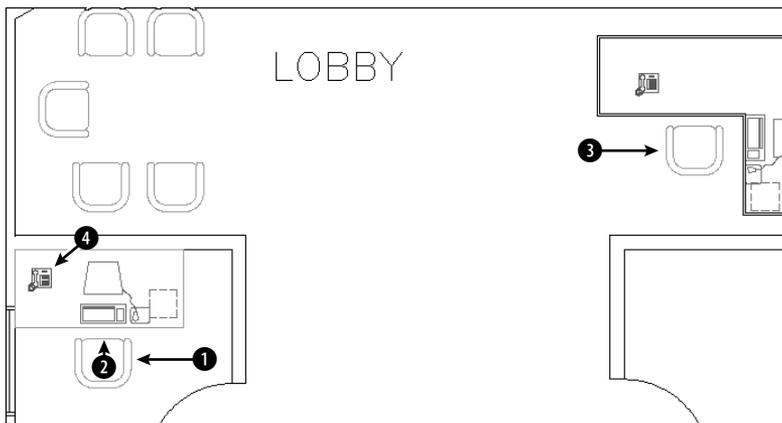

Figure 18-24: An office building plan layout.
2. Save the file as `ab18-09.dwg` in your AutoCAD Bible folder. This is a portion of an office building plan layout, shown in Figure 18-24.
- **If you have AutoCAD LT:** At the `Select block reference:` prompt, pick the chair at 1 in Figure 18-24. In the `Edit Attributes` dialog box, change the date purchased to `4/97`.
- Choose Explode from the Modify toolbar and select the chair at **1** in Figure 18-24. Press Enter to end selection. The attributes reappear but without their values. Choose Draw ⇨ Block ⇨ Define Attributes. Create an invisible attribute with a tag and prompt of Color and a value of Dusty Blue. Click OK and pick an insertion point underneath the other two attributes of the armchair. (You'll need to pan down a little. Exact placement is not important.) Choose OK.
10. Use Zoom Window to zoom in closely to the telephone at 4 in Figure 18-24. The telephone has a visible attribute of the phone number. The number is so small that it cannot usually be seen and so does not interfere with the drawing.